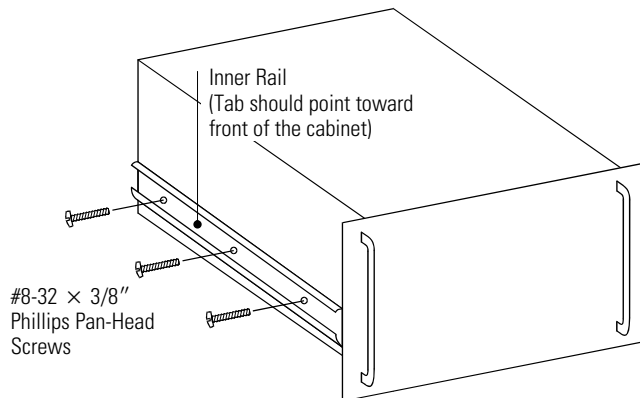

Figure 25. Attaching the Inner Rail to the UPS Cabinet
2. Attach the inner rails to the UPS cabinet (see Figure 25). Be sure the tab on the inner rail points to the front of the UPS cabinet. Secure the rail using three #8-32 $\times$ 3/8" Phillips pan-head screws on each side of the cabinet.